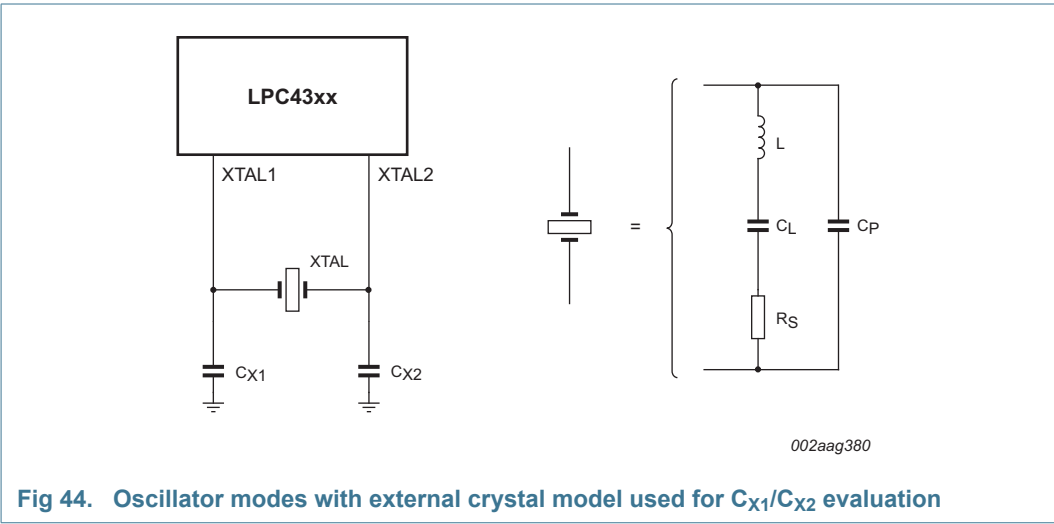

Fig 44. Oscillator modes with external crystal model used for CX1/CX2 evaluation
- External components and models used in oscillation mode are shown in Figure 44, and in Table 45 and Table 46. Since the feedback resistance is integrated on chip, only a crystal and the capacitances  $C_{X1}$  and  $C_{X2}$  need to be connected externally in case of fundamental mode oscillation (L, CL and RS represent the fundamental frequency). Capacitance  $C_P$  in Figure 44 represents the parallel package capacitance and must not be larger than 7 pF. Parameters FC, CL, RS and CP are supplied by the crystal manufacturer.